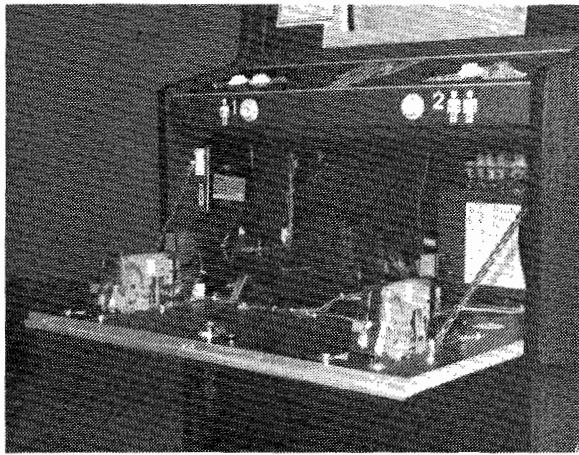

Figure 1
b) Open the coin mechanism door (see figure 1) and inspect the inside of the game electronics compartment. Be sure no components or connectors have come loose. Proper connector fittings must be checked before game power is applied. Check all related connectors for good contact. Although disconnected connectors are easily spotted, poor contacts are difficult to locate. The connectors should therefore be pushed in firmly and then loosened to spot poor connections.